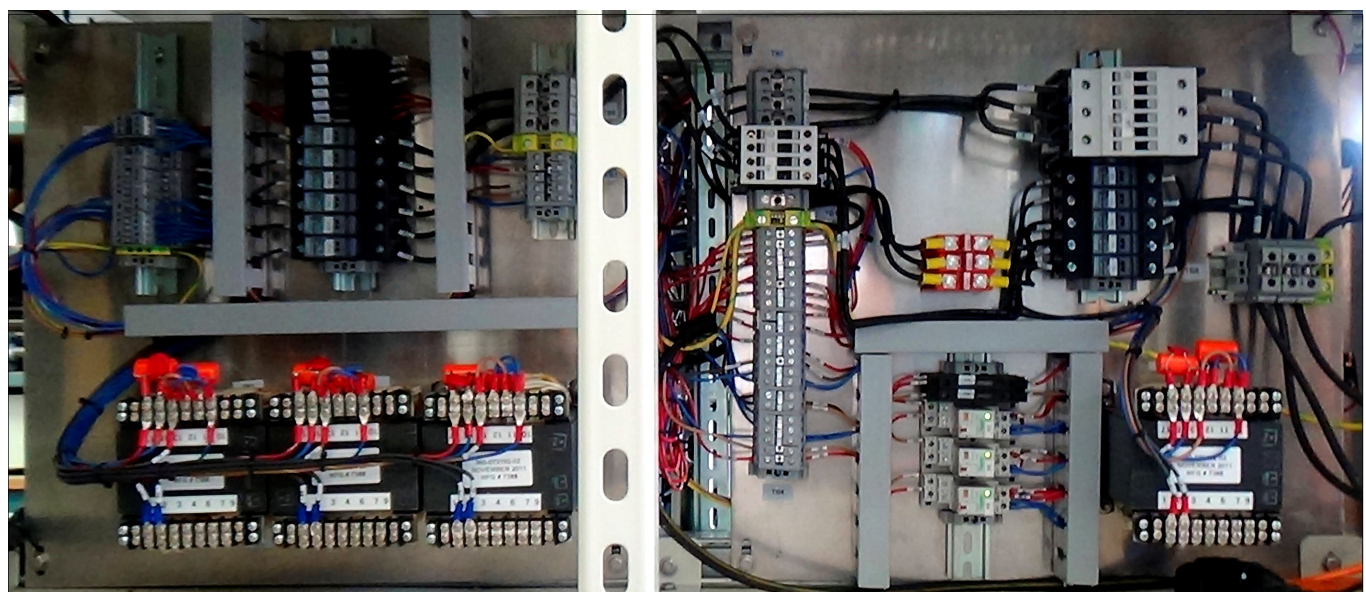

Figure 3-10 Power Distribution and Safety panels
**Safety panel** – Point where power enters the furnace. Contains main contactor. Located at furnace entrance, back side (Figure 3-10).
**PDP or Power Distribution Panel** – Distributes power 3 phases. Located next to Safety panel on furnace back side (Figure 3-10).